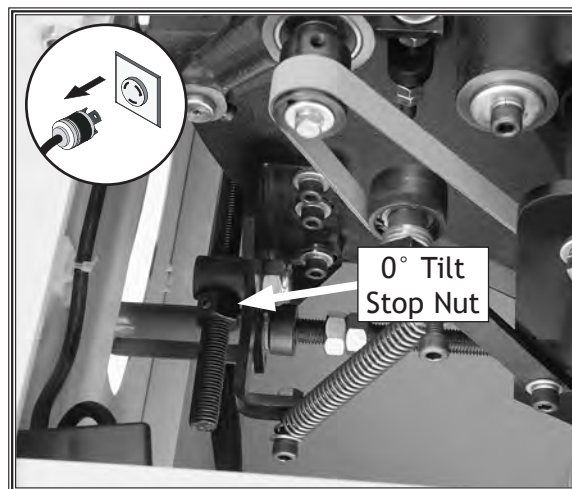

Figure 121. Blade tilt stop nut (0°).
- If the blade is not square to the table, loosen the two set screws that secure the 0° tilt stop nut shown in **Figure 121**.